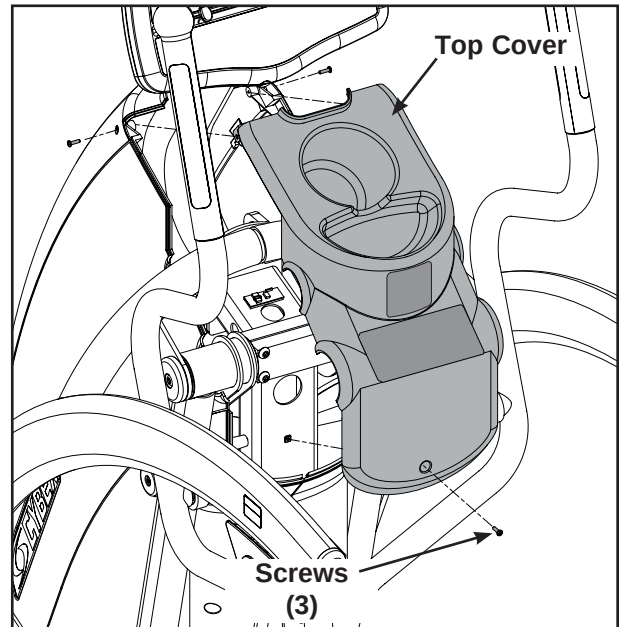

Figure 2
- A. Using a Phillips screwdriver, remove the three screws securing the top cover. See Figure 2.